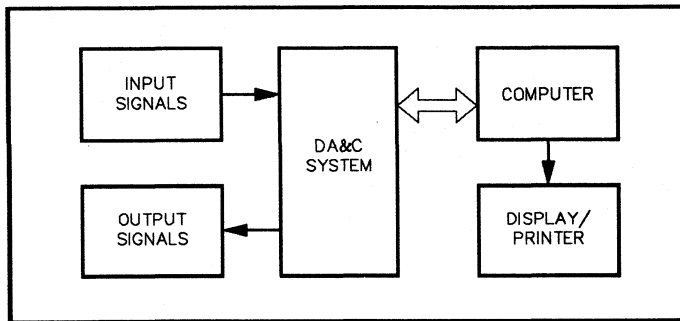

FIGURE 4-5. A Computerized Data Acquisition & Control System.
The advent of the modern personal computer (PC) makes it possible for virtually everyone to take advantage of the flexibility, power and efficiency of computerized data acquisition and control. PCs offer high performance and low cost along with an ease-of-use that is unprecedented. Thanks to a significant degree of standardization among PC and DA&C manufacturers, a large family of hardware/software tools and application packages has evolved. The result is that an individual engineer or scientist can now implement a custom DA&C system within a fraction of the time and expense formerly required. It is now practical to tailor highly efficient solutions to unique applications. Furthermore, personal computers invite innovation. This type of innovation has revolutionized the office and is now revolutionizing factories, production lines, testing, and laboratories. FIGURE 4-5 shows the relationship between the DA&C system and its host computer.